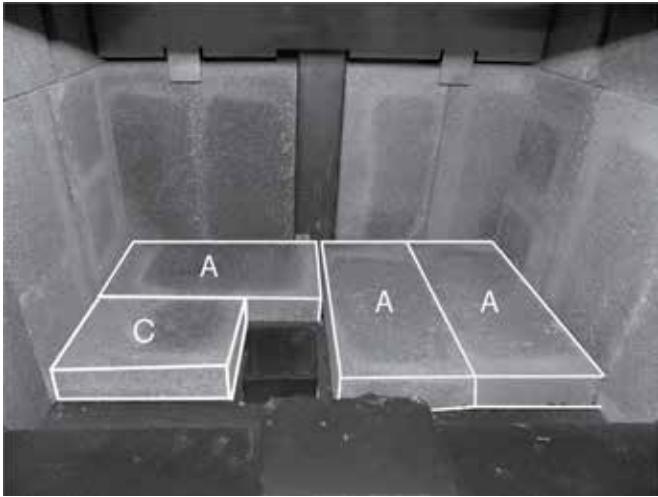

Figure 21: Floor brick in place.
5. Place two "A" firebricks on the firebox floor as shown. Place a third "A" firebrick against the rear wall as shown in (Figure 21).
6. Place the "C" firebrick so that it sits beside the ash dump, against the left-hand side wall and the "A" firebrick located directly behind the ash dump (Figure 21).